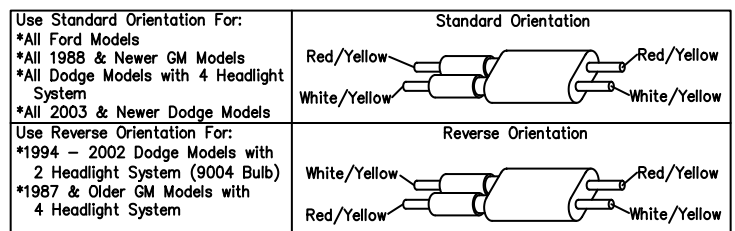

Figure 2. Vehicle Option Connector
11. Locate vehicle option connector. Align the connector so that the wire colors are positioned to match the vehicle it is installed on. This is illustrated in Figure 2.